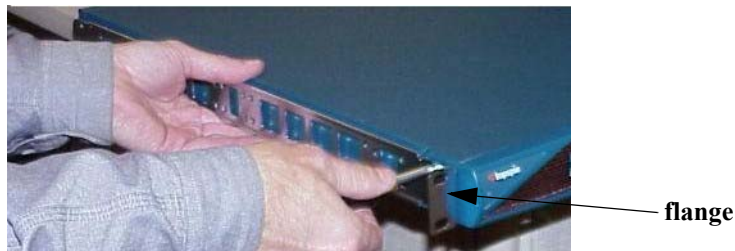

Figure 2-2: Attaching One Rail to Switch Chassis
2. Attach the bracket with screw holes to the side of the chassis with the flange facing away from the switch, as shown in Figure 2-2.